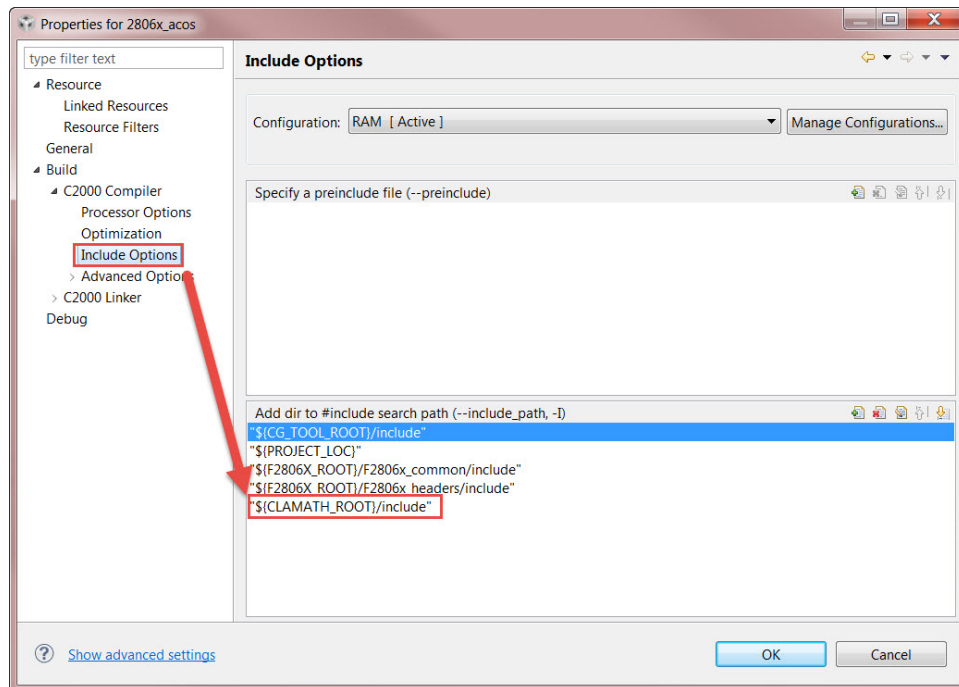

Figure 4.5: Adding the Library Header Path to the Include Options
2. Add the new path, **CLAMATH\_ROOT/include**, to the *Include Options* section of the project properties (Fig. 4.5). This option tells the compiler where to find the library header files.